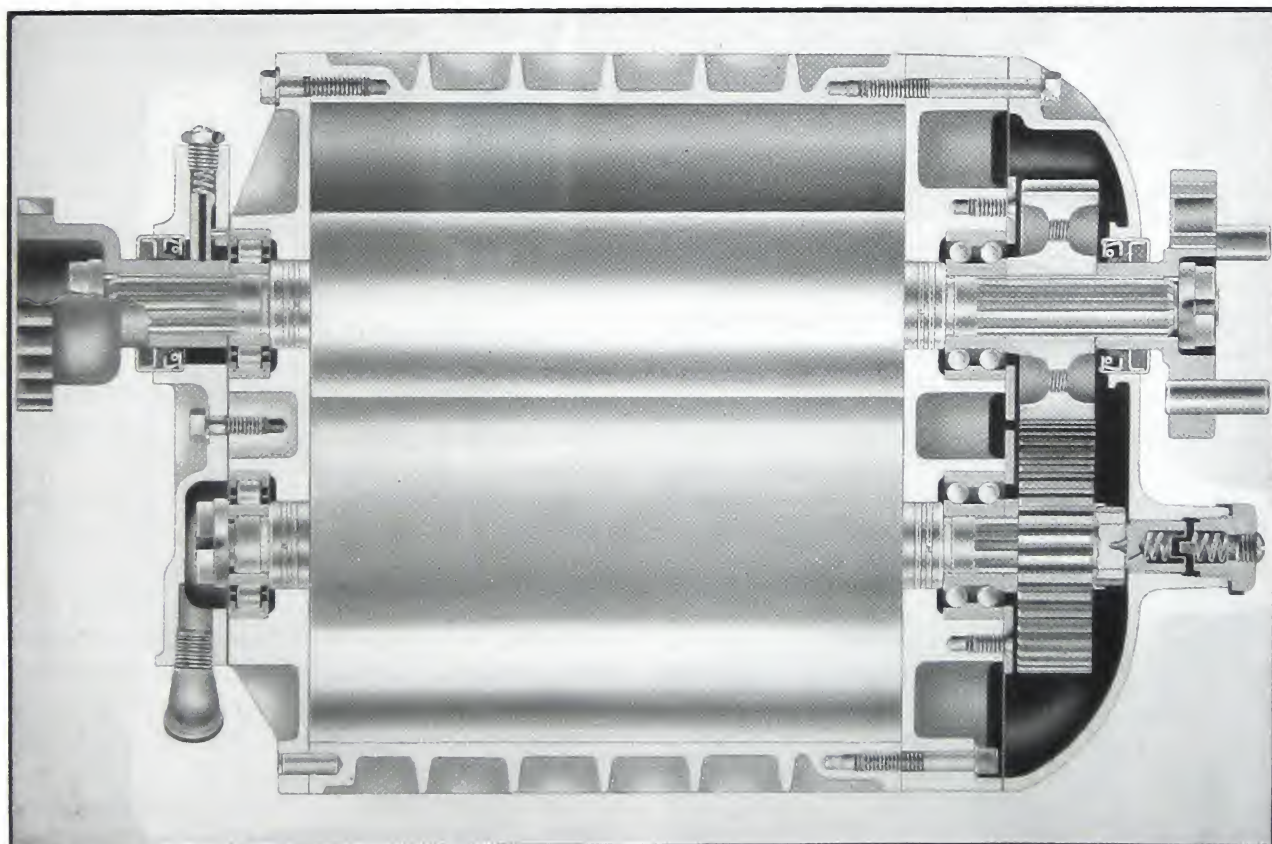

Fig. 10-1. Supercharger—cross section
2. Remove the oil pressure connection fitting, spring and metering pin from the bearing cover. See Fig. 10-1.
8. Remove the capscrews from the gear cover and take off the cover. Remove oil metering plunger and spring from the gear cover. Remove oil seal. See Fig. 10-1.